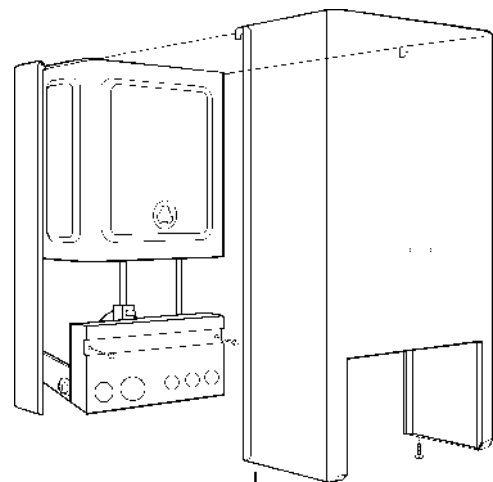

Fig. 23
6.14 Refixing the boiler casing fig. 23
Slide the casing downwards to fully engage the hooks and to align the bottom fixing holes. Replace the four case retaining screws. (fig. 23)